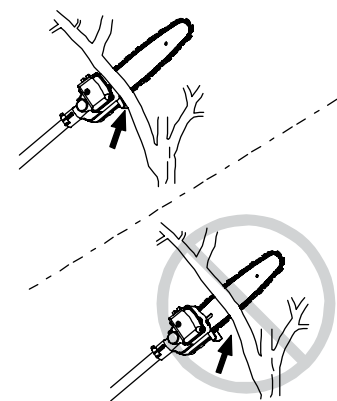

Fig.3-3
- Press the guide on the gearcase against the branch you intend to cut. With this technique, the running saw chain will not lurch forward when the branch has been cut through. Do not allow a gap between the guide and branch being cut; do not move the saw chain back and forth. (Fig.3-3)